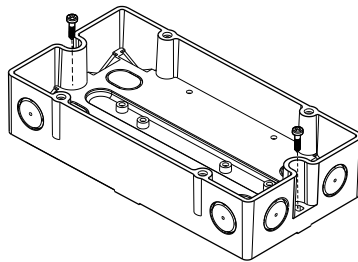

Fig. 5
3. Use two screws to fit the housing on a plane surface (Fig. 5).